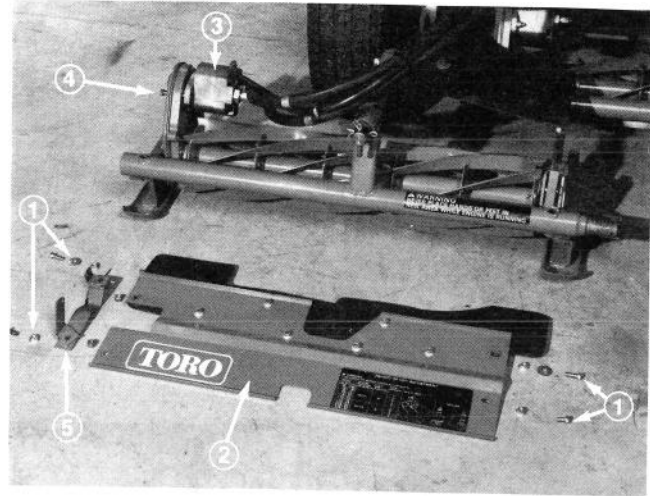

Figure 11
3. Remove capscrews, flatwashers and nuts securing top shields (Fig. 11), lubricate the O-rings in clean engine oil and install them on the mounting flange of each reel drive motor.
5. Insert reel drive motor into chain case and install drive chain onto the motor sprocket (Fig. 11).
6. Push the two (2) reel motor mounting capscrews through motor flange and shield bracket, install locknuts and tighten to secure motor to the case (Fig. 11). Install and tighten shield fasteners.